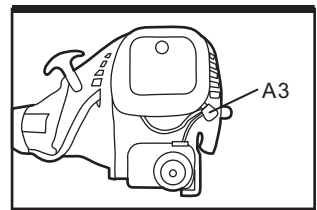

Fig. 13d
- d). If the engine is warm, move the choke lever (A3) to the "OPEN" position , do not press the primer. (See Fig. 13d)